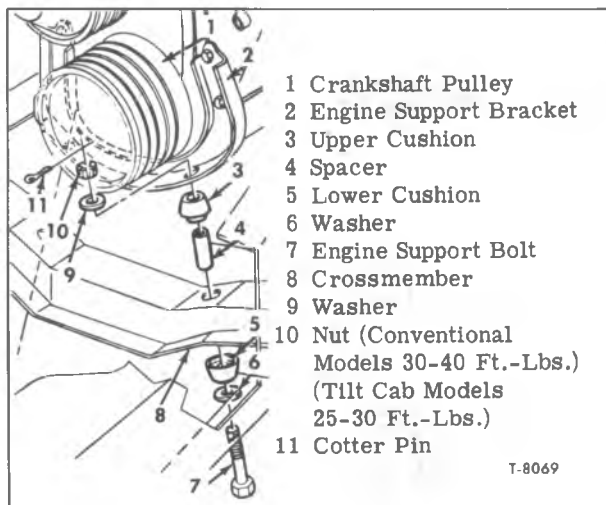

Figure 2—Engine Front Mounting (V8 Gasoline Engine Model)
**REMOVAL** (Refer to Fig. 2)
1. Remove cotter pin (11) at each mounting bolt, then loosen mounting bolt nuts.
**INSTALLATION** (Refer to Fig. 2)
1. Position cushions (3) on top of crossmember, and assembly spacers (4), cushions (5), washers (6), and bolts (7) through crossmember and mounting components.